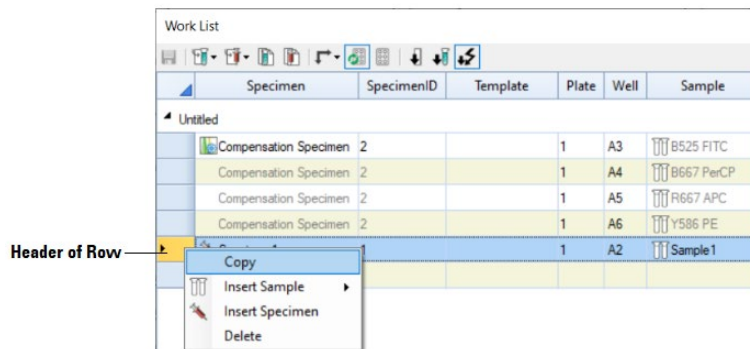
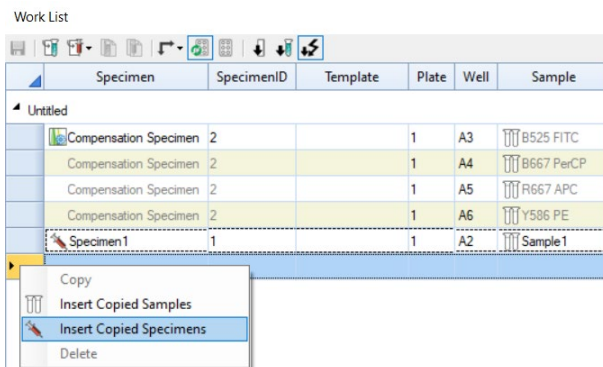

Figure 19. Copy Specimens and Samples
Figure 20. Insert Copied Specimens
- Right-click the header in the row for **Specimen1 Sample1**. Select **Copy** (Figure 19). Move the cursor to the last empty row below **Specimen1 Sample1**. Right-click the header and select **Insert Copied Specimens** (Figure 20). The software will create a new specimen, named as **Specimen2**, and the specimen will contain a sample, named **Sample1**, which will contain the **Lymphocyte** gate from **Specimen1 Sample1**.